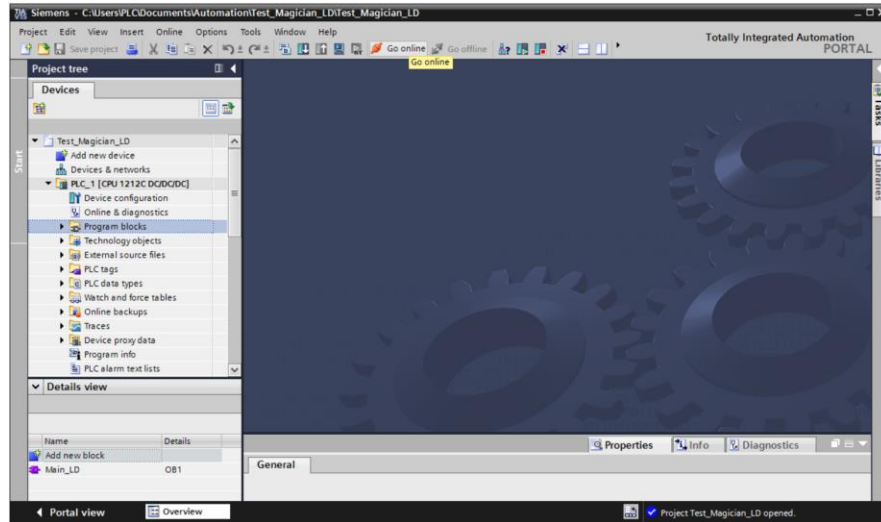

Figure 1.9 Click Go online
- Step 5** Select your PLC on the **Project tree** navigation tree and click **Go online**, as shown in Figure 1.9.